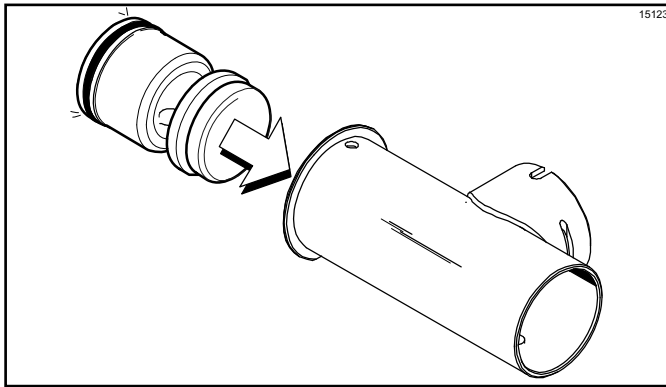

Figure 6-27
4. Insert the piston into the retaining pin hole end of the pump cylinder. (See Figure 6-27.)